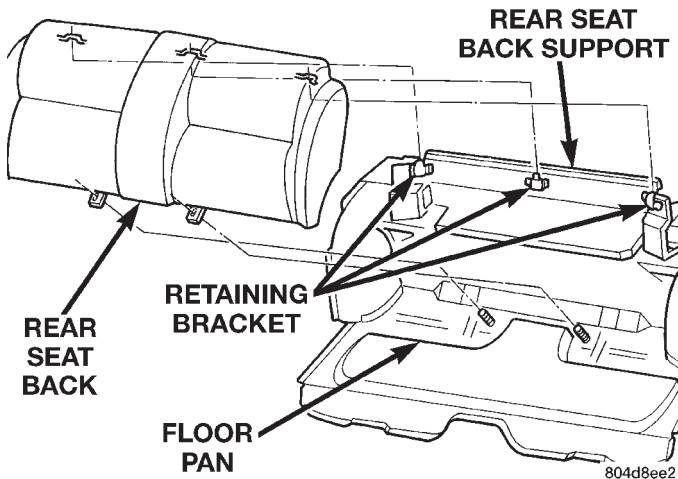

Fig. 59 Rear Seat Back
- (3) Pull bottom of rear seat back forward until seat back brackets clear studs on floor pan (Fig. 59).
- (4) Push upward on rear seat back and disengage hooks holding seat back to rear seat back support.
- (5) Separate rear seat back from vehicle.